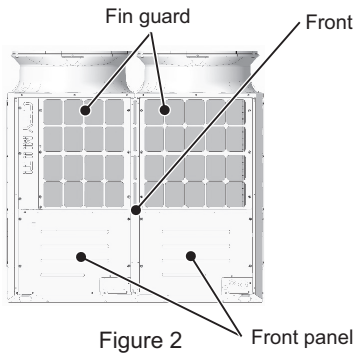

Figure 2
- (1) Remove the two front panels from the unit. (14 screws, Figure 2)
- (2) Remove the fin guard. (12 screws, Figure 2)